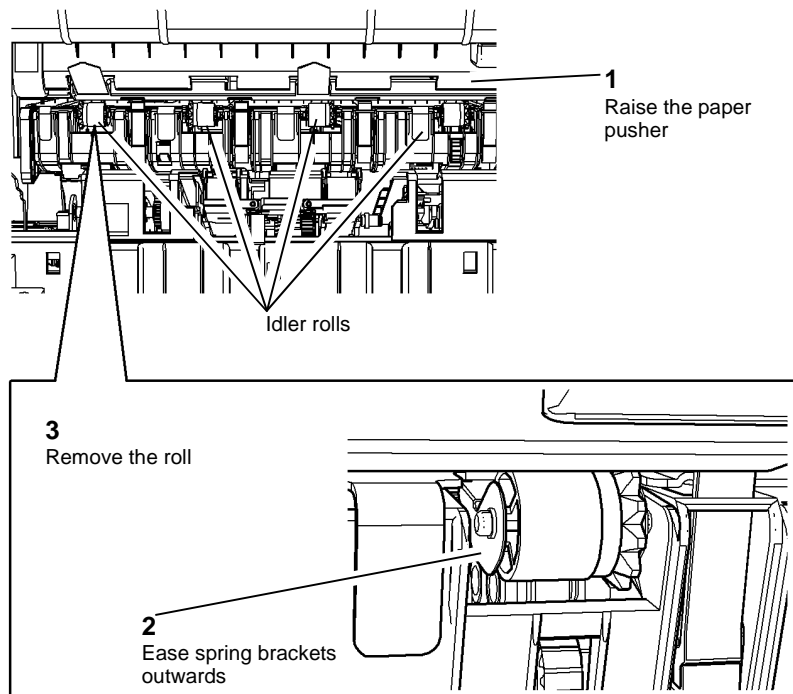

Figure 1 Paper pusher and idler rolls
2. Refer to Figure 1. Raise the paper pusher and remove the four stacker idler rolls.